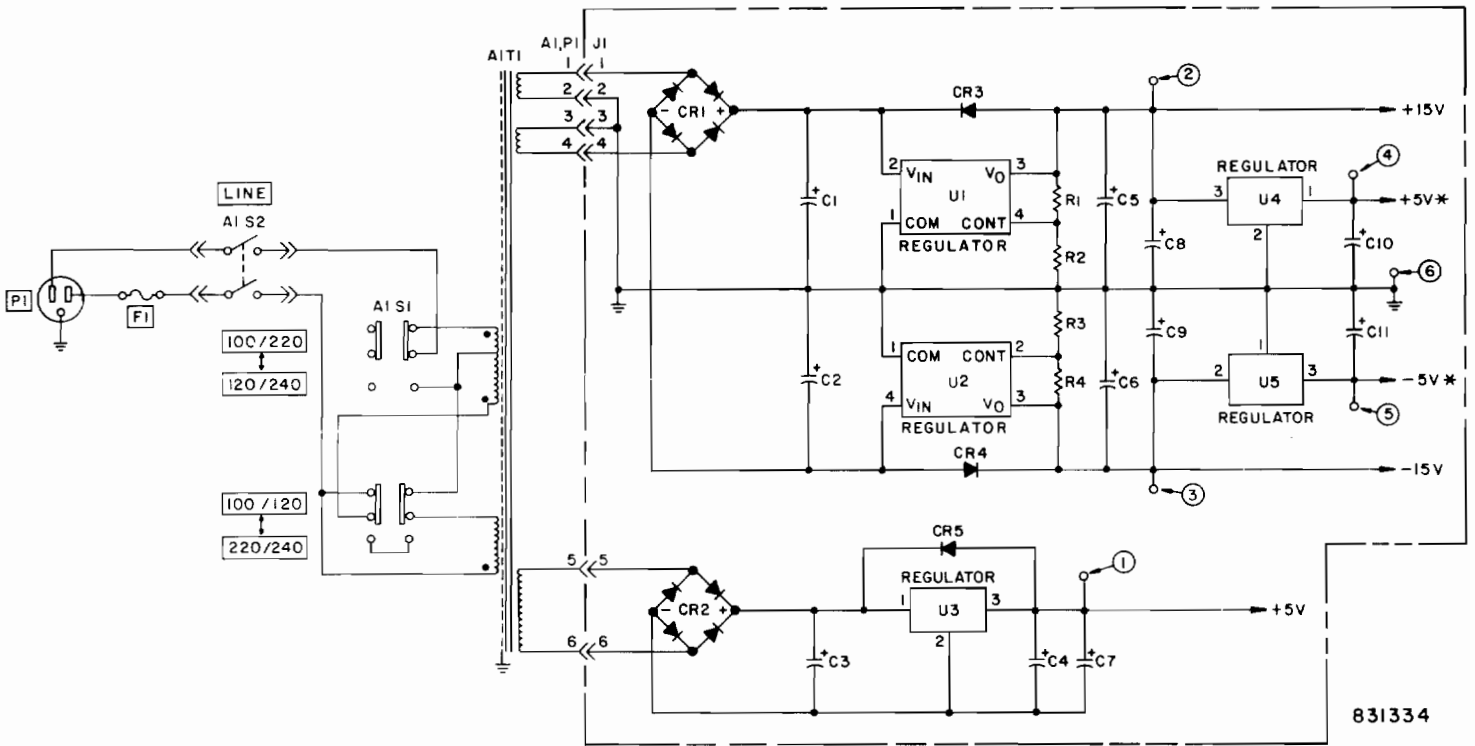

Figure 3-6. Block Diagram: Power Supply
A.C. power is applied to the primary windings of power transformer A1T1 through the LINE switch A1S2, and the two section line voltage switch A1S1. The latter changes the transformer primary winding connections as required to accommodate the available line voltage. Fuse A1F1 protects the power-supply circuits against overload. The voltages developed in the secondary windings of the power transformer are applied to three rectifier regulator circuits on the main printed circuit board A2. (See Figure 3-6.)